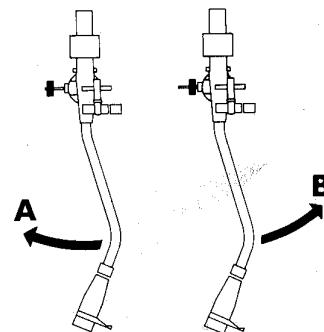

Fig. 1
- (1) In a case such as that shown in Fig. 1 when the lateral balance weight has been set at the extreme end of the lateral shaft, and yet the tonearm continues to travel in the direction shown by arrow A, correct by using both the large and the small lateral weights.
- (2) In a case such as that shown in Fig. 1 when the large lateral balance weight has been set at the innermost point on the lateral shaft, and yet the tonearm continues to travel in the direction shown by assow B, change to the small balance weight and re-adjust.